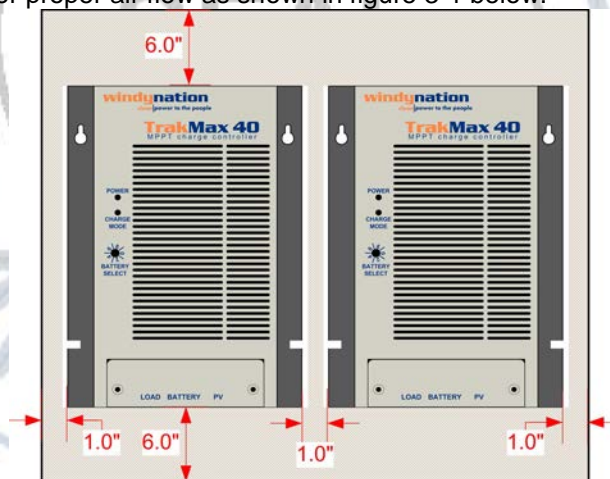

Figure 3-1: Required mounting clearance for airflow.
1. Place the TrakMax on a vertical surface protected from direct sun, high temperatures, and water. The TrakMax requires at least 6 in (150 mm) of clearance above and below and at least 1 in (25 mm) on each side for proper air flow as shown in figure 3-1 below.